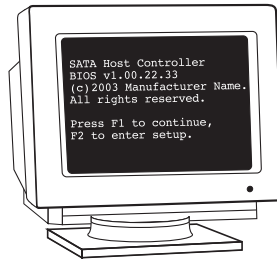

Figure 7
If you have a motherboard with built-in SATA ports, power on your system and look for an on-screen BIOS message that refers to the SATA interface or controller. (See Figure 7.) This message indicates that the SATA interface on your motherboard is enabled. If you do not see this message, consult the documentation supplied with your motherboard or system to enable SATA support in the system BIOS.
1. Power on the system and look for an on-screen message indicating which function key to press to enter Setup. (See Figure 7.) The function keys used for entering Setup vary between manufacturers. The most common Setup function keys are F1, F2, and DEL.